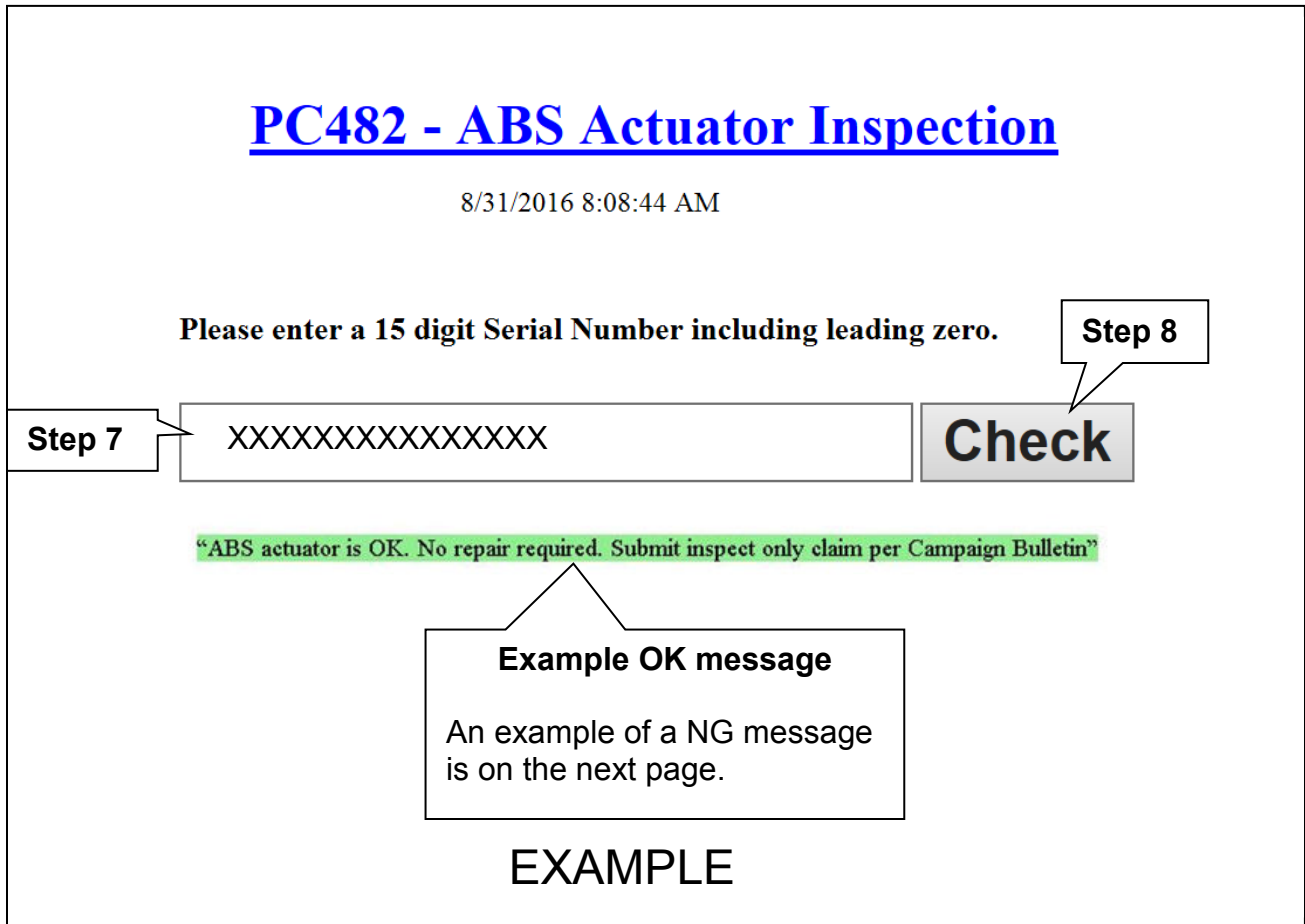

Figure 5
- If your ABS control unit (ABS Actuator) is OK, the **OK** message shown in Figure 5 will display.
- **The screen in Figure 5 showing the 15 digit serial number and the OK message, MUST be printed and attached to the repair order for warranty documentation.**